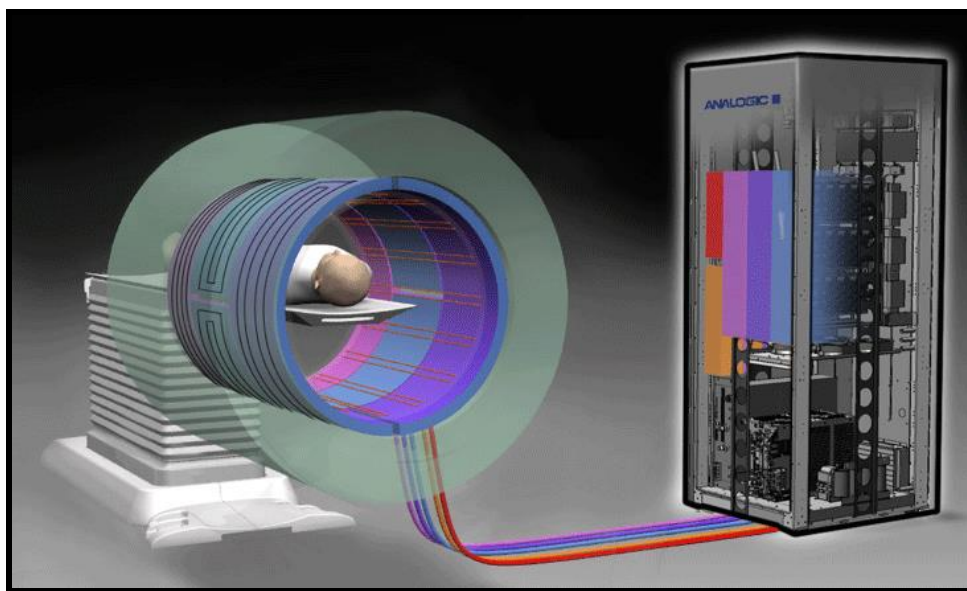

Fig. 1 Illustration of a complete MRI gradient system
Magnetic resonance imaging (MRI) is an imaging technique that provides a means of obtaining detailed, high-contrast images for medical diagnostic purposes. As shown in Fig. 1, a complete gradient system has coils mounted along the inner bore of the scanner driven by a powerful gradient amplifier and cooled by water chillers in the adjacent MRI equipment room.
Analogic MRI power solutions provide high-power gradient amplifiers (GA) that are widely used in MRI systems all over the world, which is shown as the large cabinet in Fig. 1. The gradient system generates position and time dependent magnetic fields on three orthogonal axes (X, Y and Z axis). The GA is the power stage of the MRI system that delivers electrical power to a gradient coil for the generation of these magnetic gradient fields. The GA is used in a technical room of a hospital or a mobile MR-system.